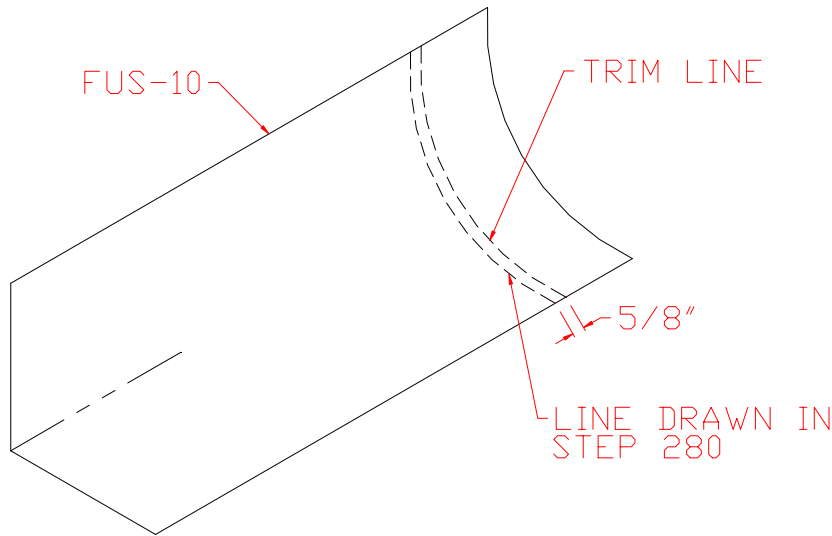

Figure 9.12.6
- 30) Trim the corner wrap as in Figure 9.12.6.